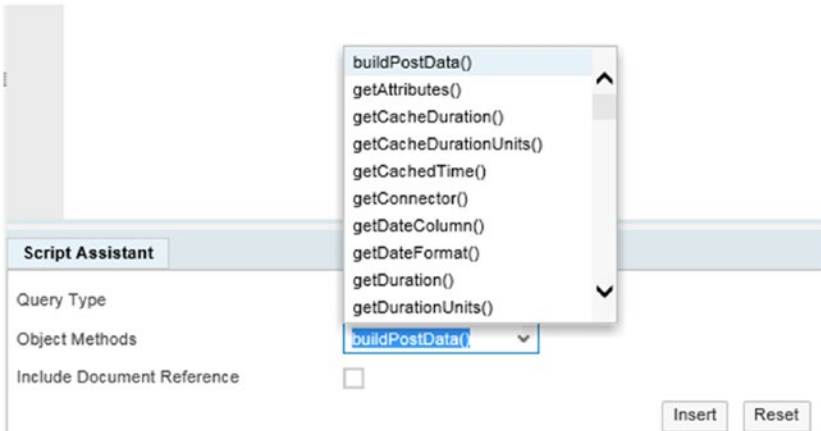

Figure 7-82. Available object methods in SSCE
- *Object Methods*: Lists the object method names that apply to the selected applet/SAP UI5 object. See Figure 7-82.